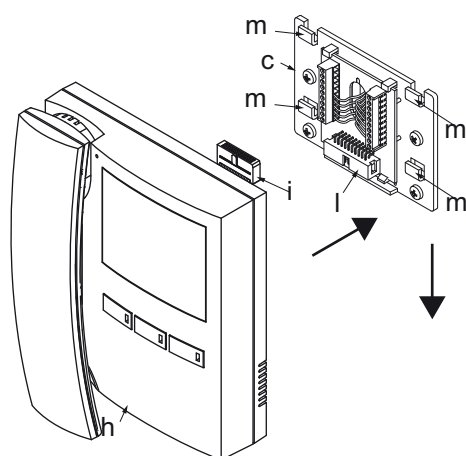
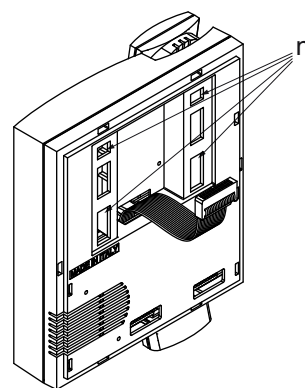

Fig.3
Fig.4
- Once the wires are connected, hook the videophone "h" to the Mounting plate "c" as shown in Fig. 3.
- Place the videophone "h" against the 4 hooks "m" on the mounting plate "c" (in line with the 4 openings "n" on the rear side of the videophone Fig. 4) and push down as suggested by the pointers in Fig. 3, the videophone will lock into place;